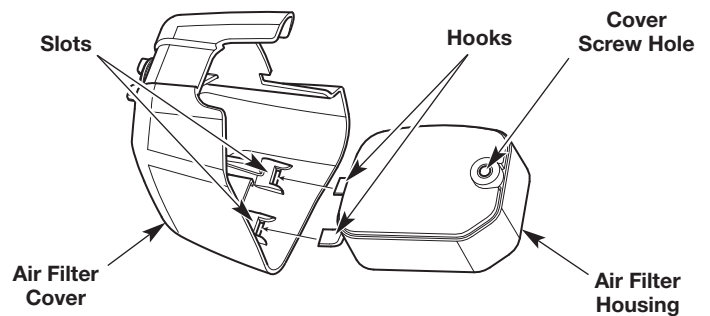

Fig. 24
7. Insert the hooks on the air filter housing into the slots on the air filter cover (Fig. 24).
8. Swing the air filter cover to the right and align the cover screw with the cover screw hole (Fig. 24). Tighten the cover screw to secure the air filter cover.